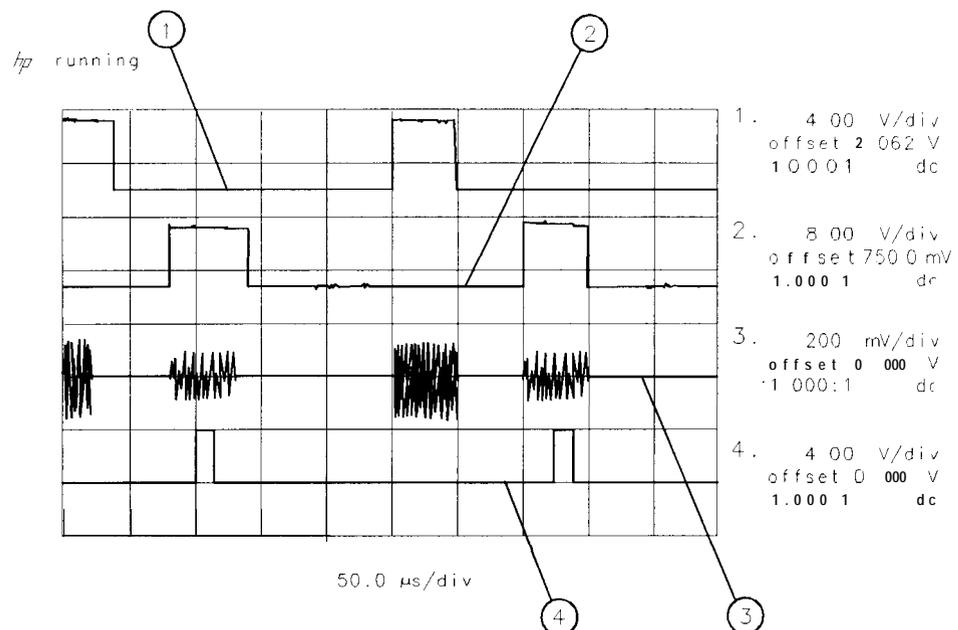

Figure 4-26. Placing the Gate Output During the Second Signal
9. To view the second signal, change the gate delay so that the gate output is under the second signal. Since the second signal had a signal delay of approximately $85 \mu\text{s}$, we set the gate delay to $85 \mu\text{s}$ plus the pulse width/2, or $110 \mu\text{s}$. Press **[SWEEP]**, Gate Control , GATE DELAY 110 **[μs]** to set the gate delay to $110 \mu\text{s}$. Using an oscilloscope can be helpful in placing the gate output during the pulsed signal (see Figure 4-26).
Item	Description of Items in Figure 4-26